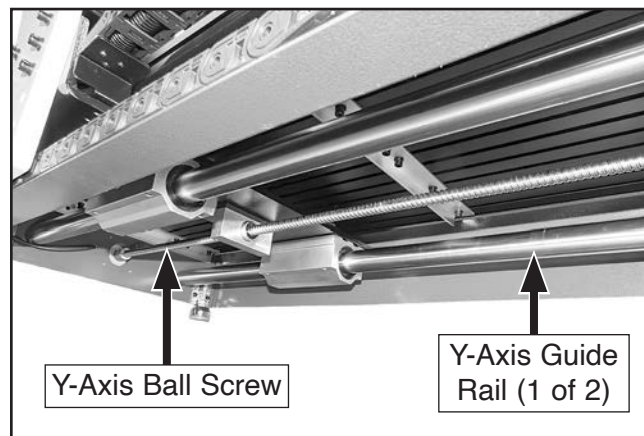

Figure 70. Location of Y-axis ball screw.
6. With help from an additional person, lift and tilt machine to access Y-axis ball screw and guide rails under table (see **Figure 70**).
7. Clean Y-axis ball screw and guide rails with a brush and mineral spirits to remove grime and old lubrication (see **Figure 70**).
8. Use a clean shop rag to wipe entire length of Y-axis ball screw and guide rails (see **Figure 70**) with Grizzly T27914 or ISO 68 lubricant.